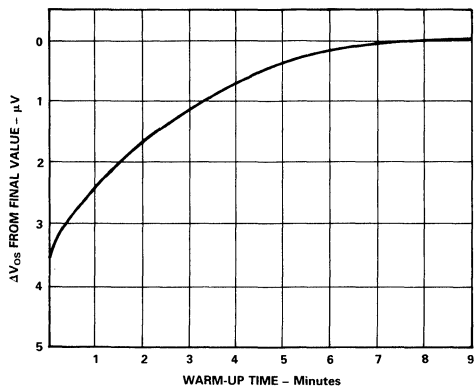

Figure 12. Offset Voltage, RTI, Turn-On Drift
**Turn On Drift:** The input offset of the 1B31 stabilizes to within 1 $\mu$ V of final value in 5 minutes (Figure 12). The test conditions are: 350 $\Omega$  bridge with +10V excitation and ambient temperature of +25 $^{\circ}$ C.